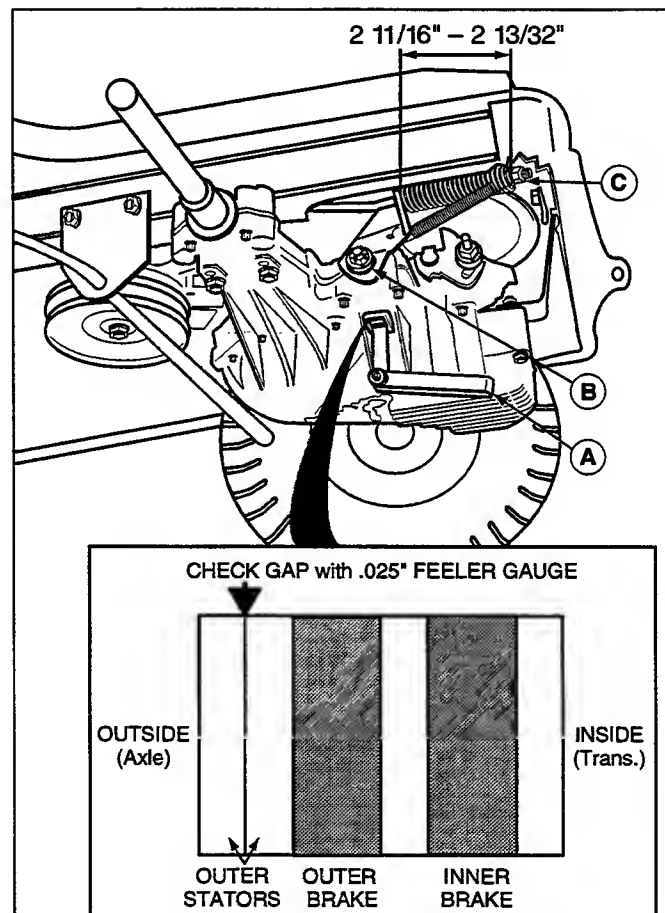

Figure 25. Brake Adjustment (Hydro Model)
2. Place a .025" feeler gauge (A, figure 25) between the two outer brake stators (refer to inset illustration). The gap should be between .025"-.030". To adjust:
- b. To **decrease** gap, hold feeler gauge in gap and turn nut (B) clockwise until resistance is felt on the feeler gauge. To **increase** gap, turn nut (B) counter-clockwise and recheck gap.
3. Set the parking brake. Loosen or tighten adjustment nut (C) to achieve a $2\frac{11}{16}" - 2\frac{13}{32}"$ compressed spring length as shown in figure 25.